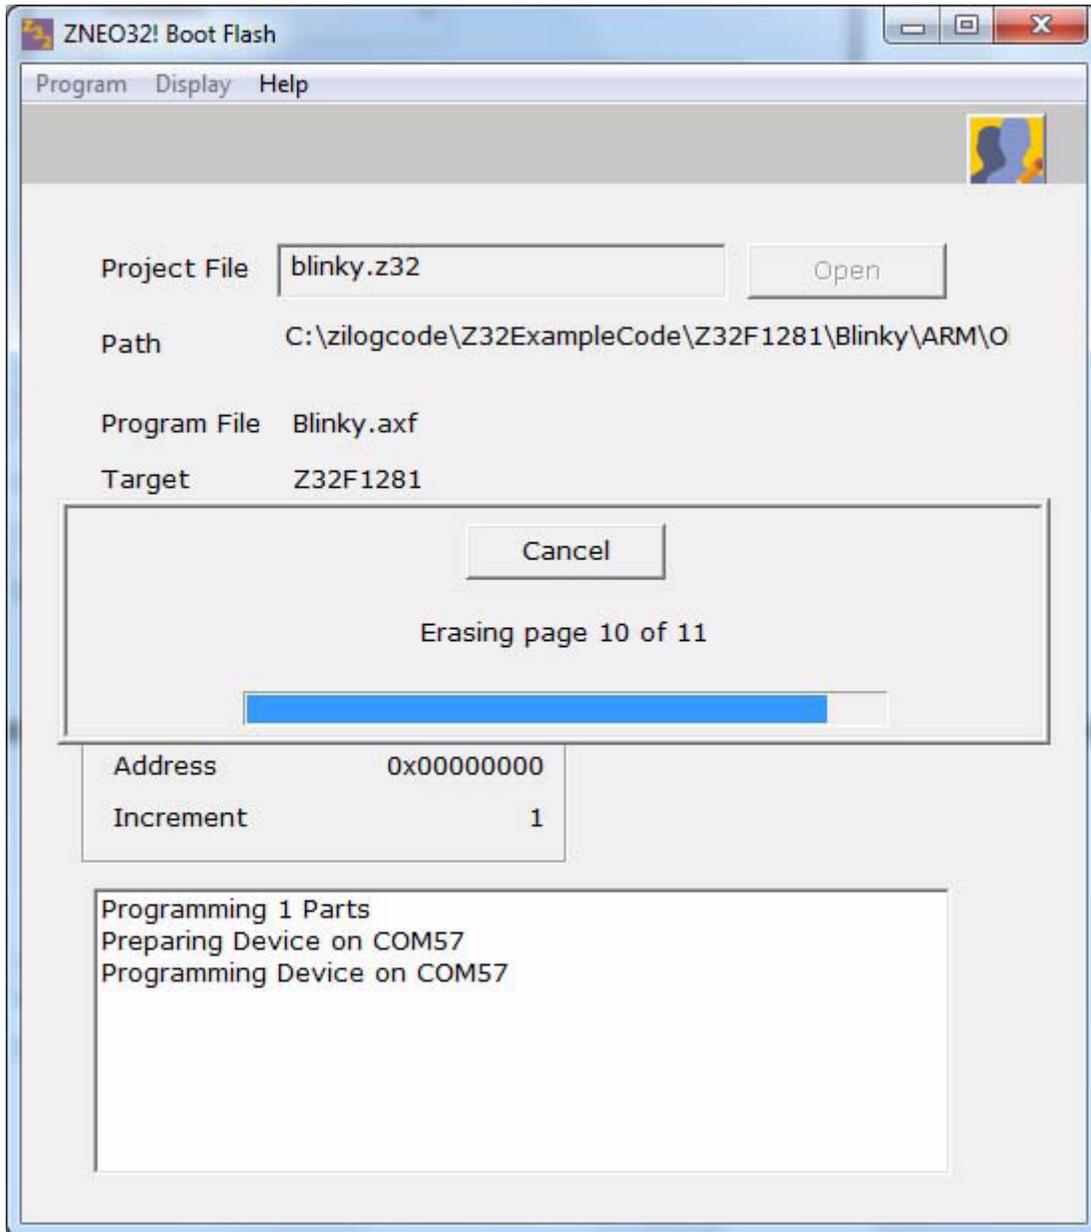

Figure 33. Programming Information Screen
4. Click the **Program** button. The system starts programming each of the devices that are found. A progress window is displayed and the results of the tasks are shown in the Programming Information status area, as seen in Figure 33.